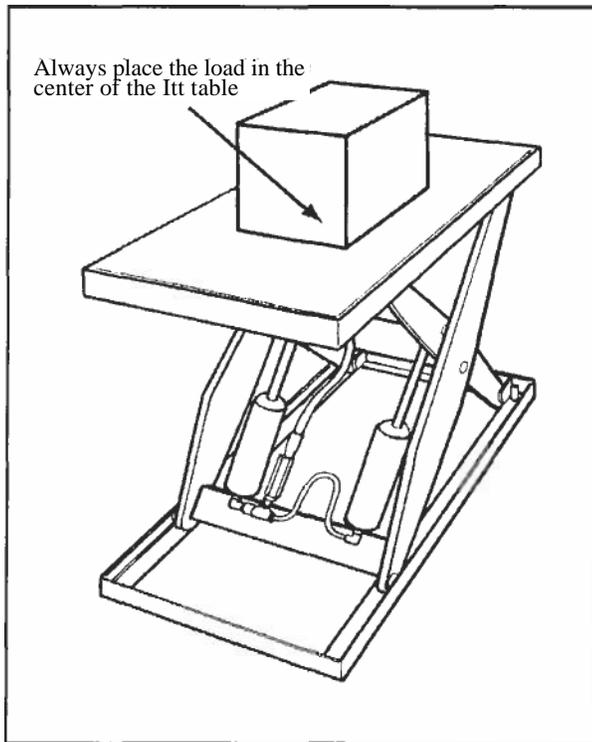

Fig. 3 - Center the Load
- Place the load in the center of the lift table, as shown in Fig. 3.